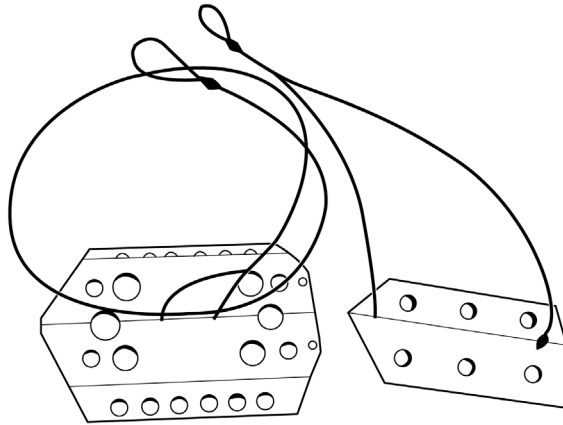

Figure 10. Wired Snow Anchors.
**Wired Snow Anchors (Figure 10).** The fluted anchor portion of the snow anchor is made of aluminum. The wired portion is made of either galvanized steel or stainless steel.